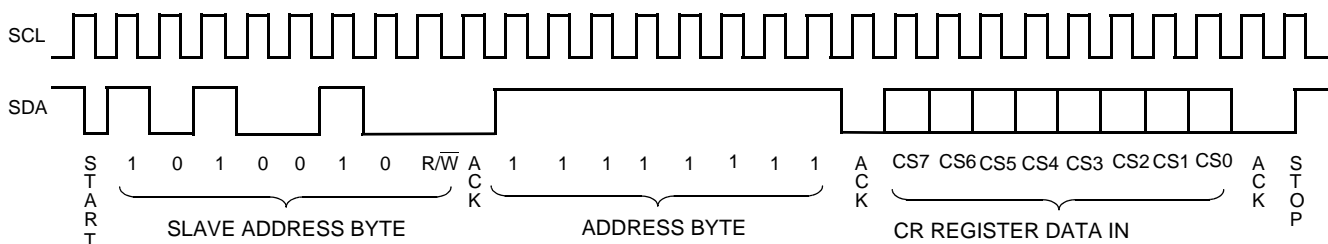

Figure 18. CR Register Write Command Sequence
Writes to the WEL bit do not cause an internal high voltage write cycle. Therefore, the device is ready for another operation immediately after a STOP condition is executed in the CR Write command sequence (See Figure 18).
- After a successful write operation to any bits of the CR register has been completed (See Figure 18).
The CR register is accessed using the Slave Address set to 1010010 (Refer to Figure 4). Following the Slave Address Byte, access to the CR register requires an Address Byte which must be set to FFh. Only one data byte is allowed to be written for each CR register Write operation. The user must issue a STOP, after sending this byte to the register, to initiate the nonvolatile cycle that stores the BP1, BP0, PUP1 and PUP0 bits. The X4023x will not ACKNOWLEDGE any data bytes written after the first byte is entered (Refer to Figure 18).
The contents of the CR Register can be read at any time by performing a random read (See Figure 18). Using the Slave Address Byte set to 10100101, and an Address Byte of FFh. Only one byte is read by each register read operation. The X4023x resets itself after the first byte is read. The master should supply a STOP condition to be consistent with the bus protocol.